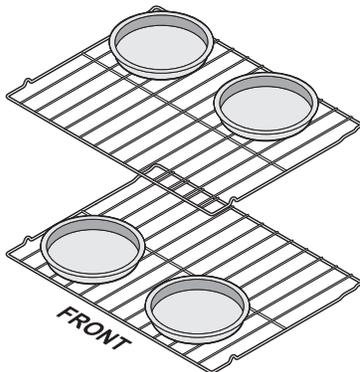

Figure 16: Pan positions two rack baking
- When baking using two oven racks, position cookware as shown in Figure 16.